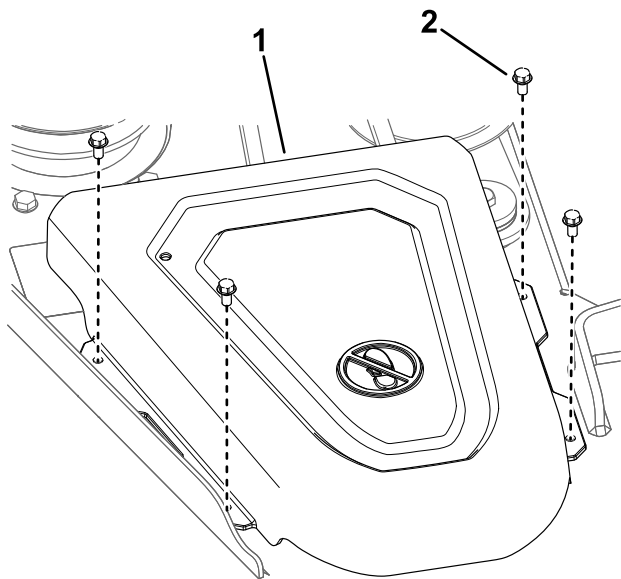

Figure 48
4. Remove the pulley covers (Figure 48).